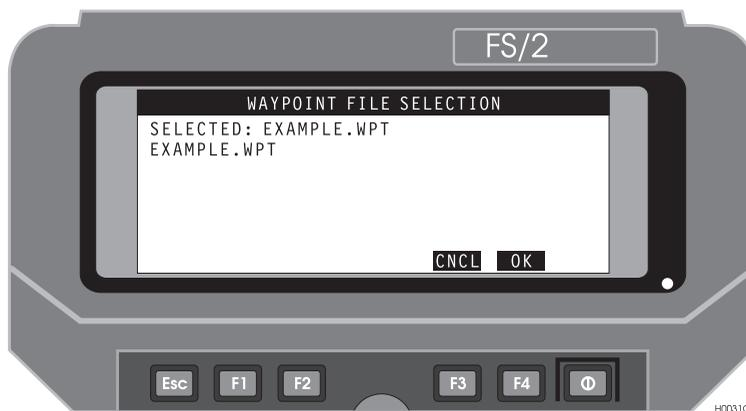

Figure 3.9: Waypoint File Selection Screen
4. Highlight a feature file using the arrow keys, then press **F4 (OK)** to return to the Session Setup screen.
5. In the Session Setup screen, if the project uses a waypoint file, press **F2 (WPT)** to call the Waypoint File Selection screen, Figure 3.9.